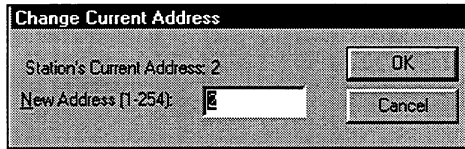

Figure 12-5. Change Current Address Dialog Box
5. Select the Change Current Address button if you want to renumber the station address of the workstation to which you are communicating. This opens the Change Current Address dialog box, as shown in Figure 12-5.